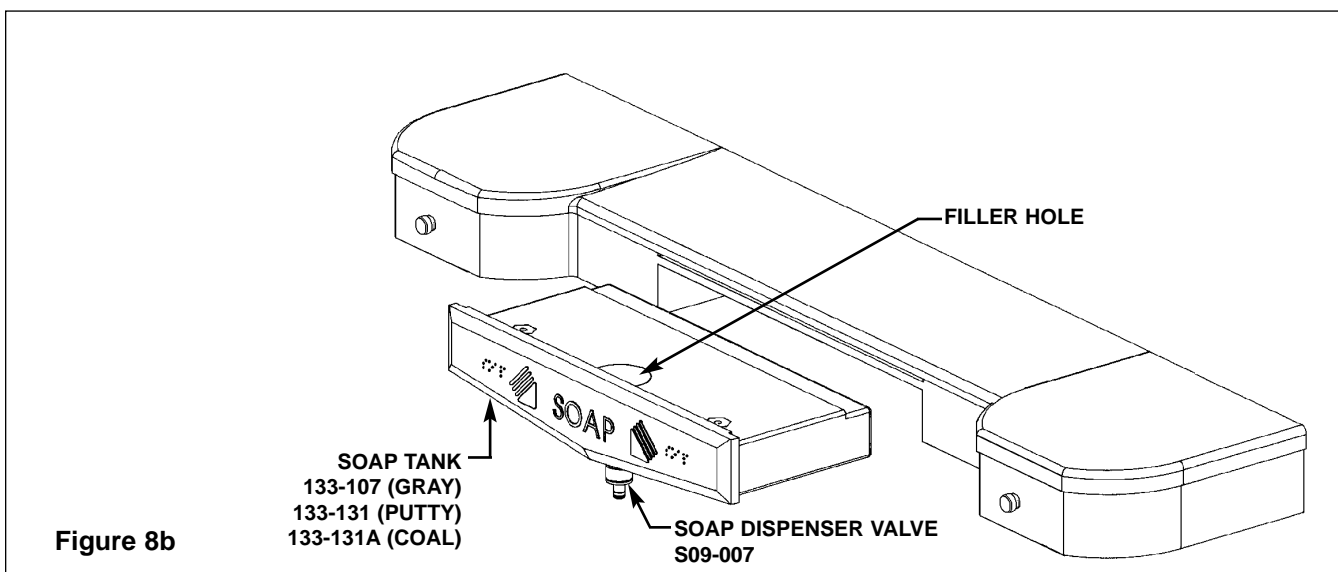

Figure 8b
3. Pour the soap into each soap tank's filler hole (see Figure 8b).